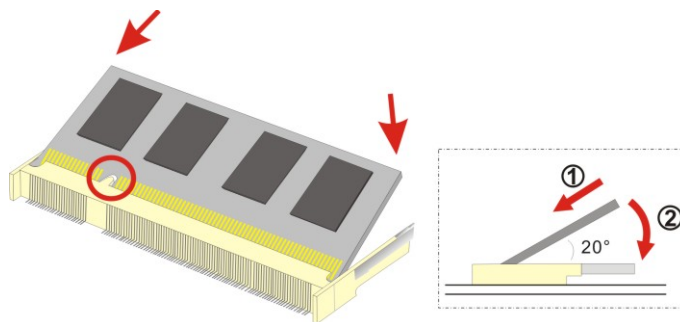

Figure 5-2: SO-DIMM Installation
- Step 4:** Align the new SO-DIMM with the socket. The SO-DIMM must be oriented in such a way that the notch in the middle of the SO-DIMM must be aligned with the plastic bridge in the socket (**Figure 5-2**).
- Step 5:** Insert the SO-DIMM. Push the SO-DIMM chip into the socket at an angle (**Figure 5-2**).
- Step 6:** Open the SO-DIMM socket arms. Gently pull the arms of the SO-DIMM socket out and push the rear of the SO-DIMM down (See **Figure 5-2**).